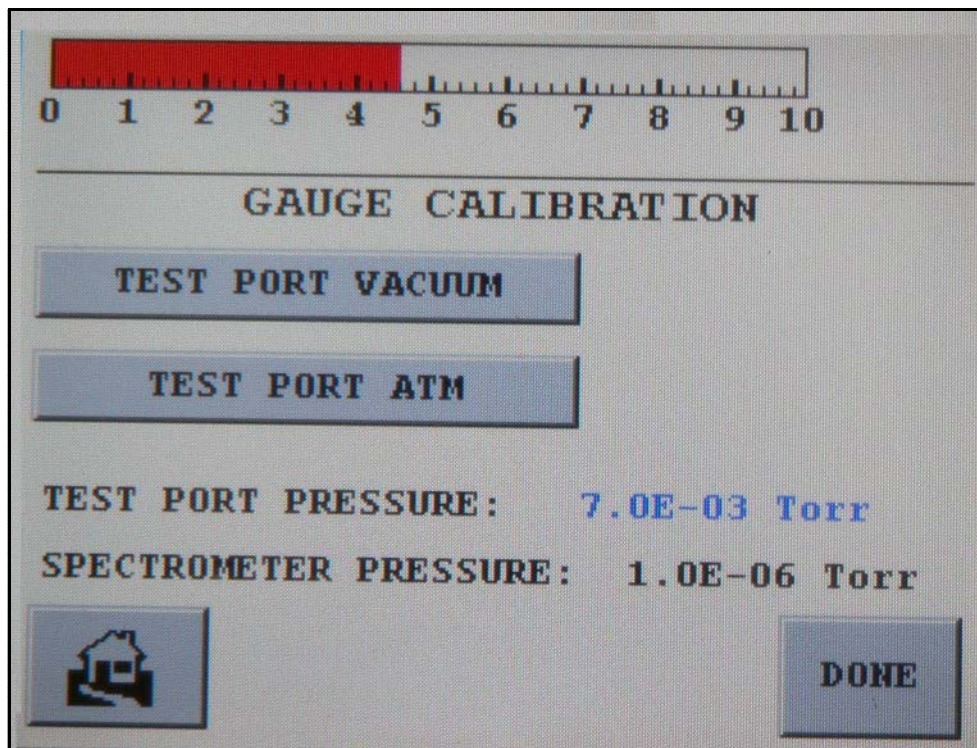

Figure 2-22 Gauge Calibration
If the vacuum gauge option is activated, press **Gauge Calibration** on the Set-Up screen and the Gauge Calibration screen appears (Figure 2-22).
2. Wait approximately ten seconds for the test port pressure to stabilize then move to the Gauge Calibration screen (Figure 2-22 on page 2-47).